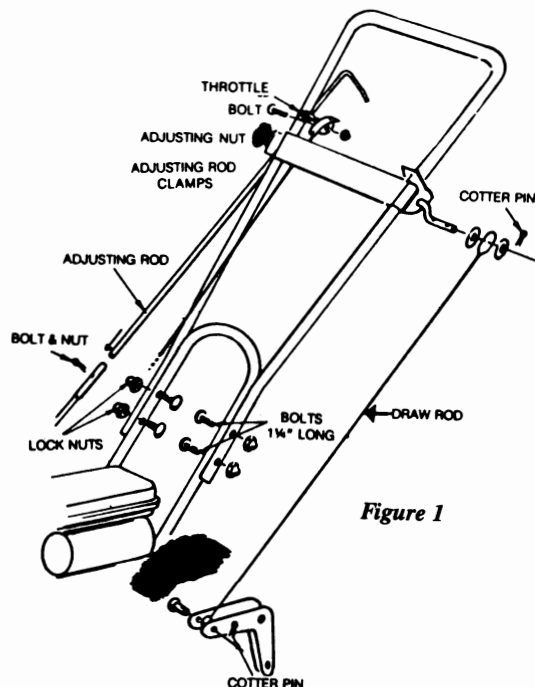

Figure 1
6. Assemble draw rod, P/N 198 as shown in figure 1. Remove cotter pin P/N 156, and washer, P/N 163 from lever belt slackener P/N 167 located on upper handle. Place elongated loop in draw rod on belt slackener lever. Reinstall washer and replace and bend legs of cotterpin. Remove cotterpin P/N 156, and clevis pin P/N170, from belt slackener P/N 169. Place round hole in draw rod between legs of belt slackener. Reinstall clevis pin through belt slackener and draw rod and replace and bend legs of cotter pin.